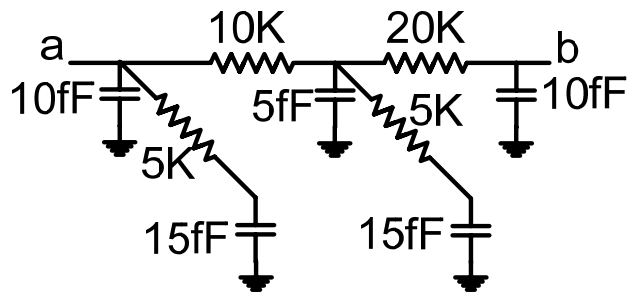

Figure 2: RC network
4.0 – Consider the RC network shown in Figure 2. Calculate the elmore delay from point a to b.